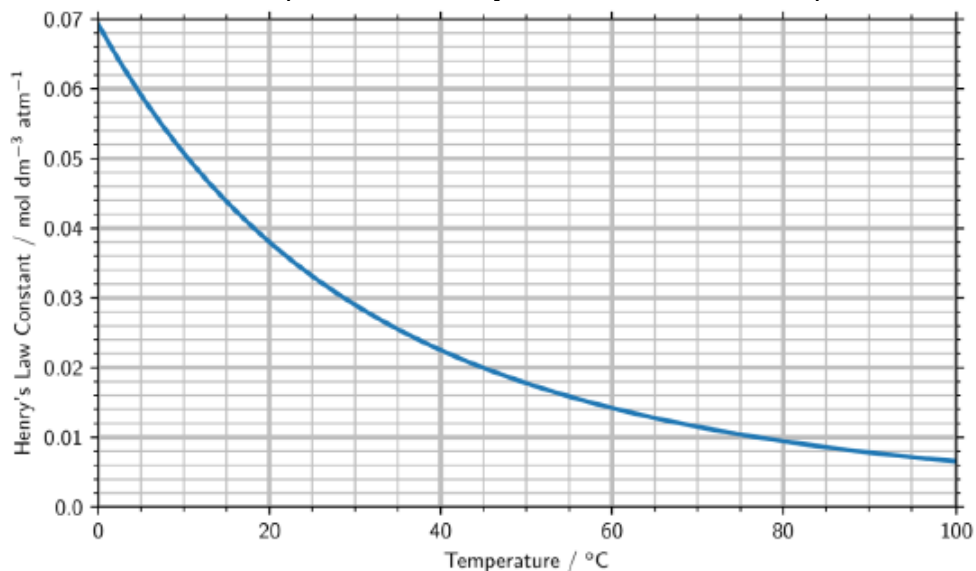

Fig. 4.1
Fig. 4.1 shows the relationship between Henry's law constant and temperature.
- (iii) Using Fig. 4.1, determine the maximum temperature at which the fizzy canned drink can be stored safely.